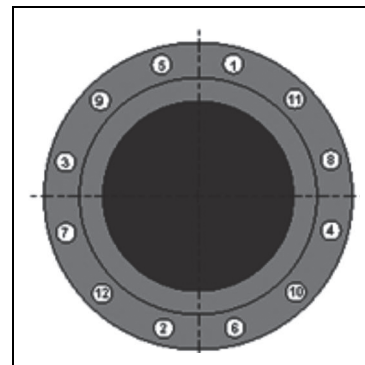

Figure 5 Crosswise tightening flange bolts
- Turn the flange screws or bolts facing one another cross-wise and tighten uniformly using a torque wrench according to operator's specification (see Figure 5).